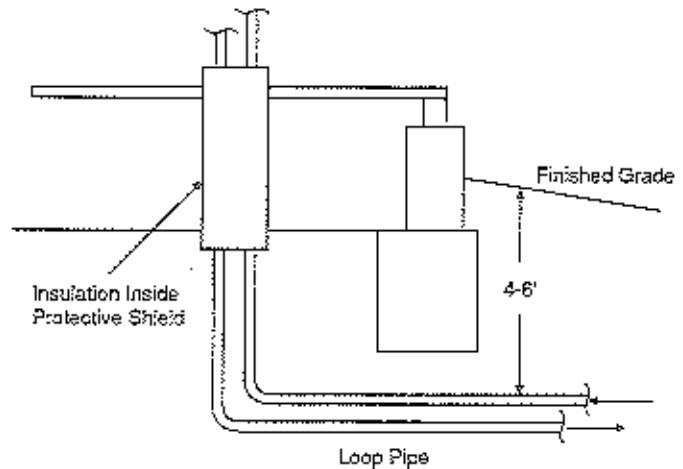

Figure 4
*New and Retrofit Construction:* Bury the pipe between piers to the point that it is directly below the point of entry into the building. Bring the pipe up into the building. Shield and insulate piping as shown in Figure 4 to protect it from damage.